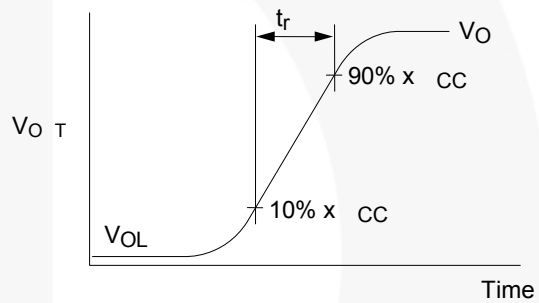

Figure 6. Active Output Rise Time
- 8. See Figure 6.
- 11. See Figure 6.